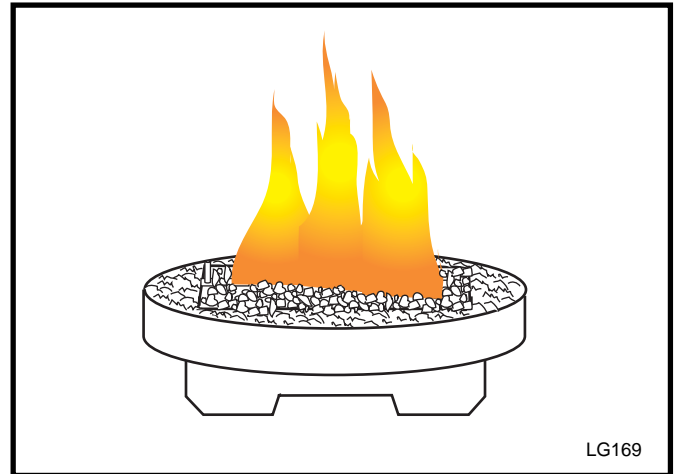

Fig. 20 Correct burner flame appearance.
4. Periodically remove the logs and examine the burner. If dirty, clean with a soft brush. Also examine the area around the burner air shutter. Any dirt or lint in this area should be removed. This will ensure long life and trouble free operation. When the appliance is put back in service, check the burner flame patterns with Figure 20. Reinstall the logs as shown in the log placement instructions.